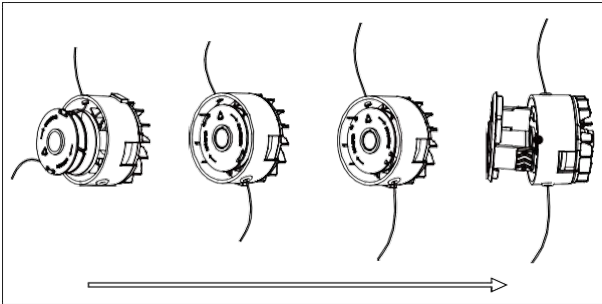

Fig. 6
- c). Feed the line through the holes on either side of the spool casing. Each hole should have one string coming out of it. (See Fig. 6).